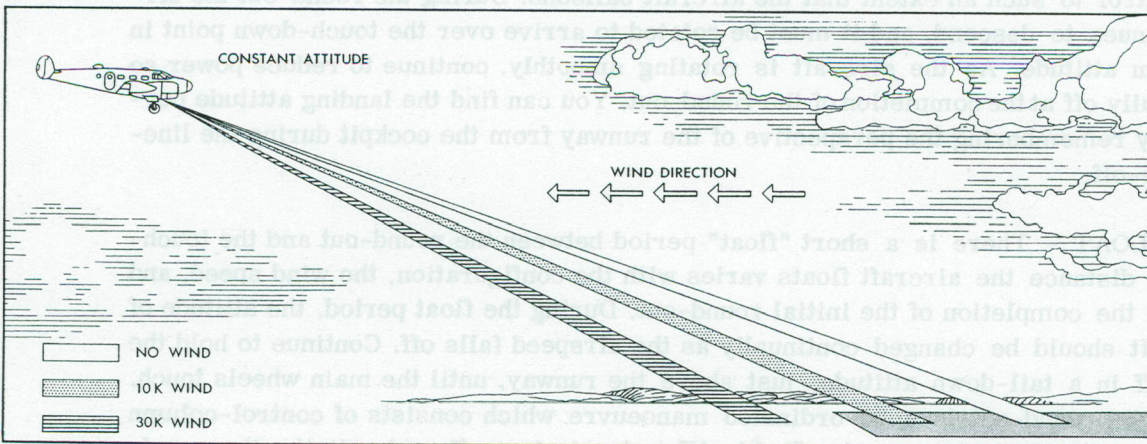

Figure 3. The Effect of Wind on the Approach
- (4) If you are required to do a minimum-roll take-off to clear an obstacle at the upwind end of the runway, the procedure is the same except that the aircraft is climbed at 90K with 10 degrees of flap until there is sufficient altitude to clear the obstacle. At the appropriate height, raise the flap, reduce power to "MAXIMUM CONTINUOUS", complete the Post-Take-off Check and then follow the normal climbing procedures. Figure 3 (overleaf) depicts a minimum-roll take-off to clear an obstacle at the end of the runway.
(1) If the approach is going to be made into a strong wind, you must be prepared for a steeper angle of descent, as shown in Figure 3. The attitude of the aircraft remains the same, but if you have made no adjustment to the circuit, more power will be required if the aircraft is to reach the predetermined spot for the touch-down. The strength and direction of the wind is one of the items in the landing instructions; therefore you should begin to plan the approach leg as soon as you receive landing instructions. The strength of the wind determines when you should turn onto the base leg to allow for a normal final approach.